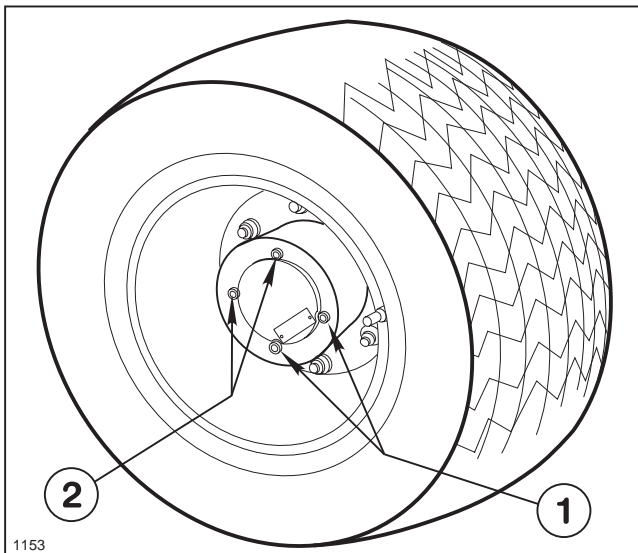

FIG. 45
CHANGING PLANETARY GEAR DRIVE OIL (FIG. 45 & 46)
1. With machine on level surface, position wheel so the check/drain plugs are at the 3 and 6 o'clock positions. (FIG. 45, position 1.)
4. When Gear Drive is completely drained, reinstall plug on bottom of hub and position wheel so holes are at 9 and 12 o'clock position. (FIG. 45, position 2.)